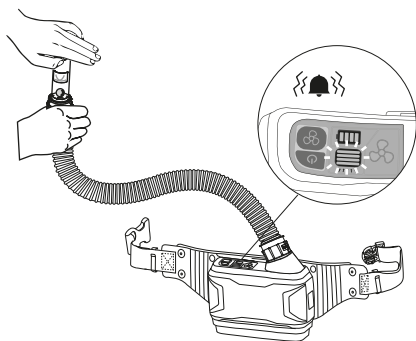

fig.5
- Attach the airflow indicator to the air duct of the blower unit. To test the alarm, switch on the blower unit and cover the air duct of the airflow indicator. You will hear an audible alarm and see the green light flashing. The alarm should stop if you remove your hand (See fig.5).